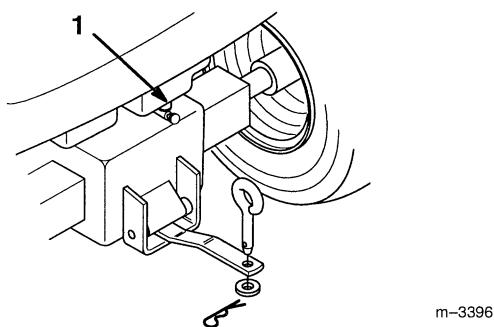

Figure 29
2. Close fuel shut-off valve at fuel tank (Fig. 29).